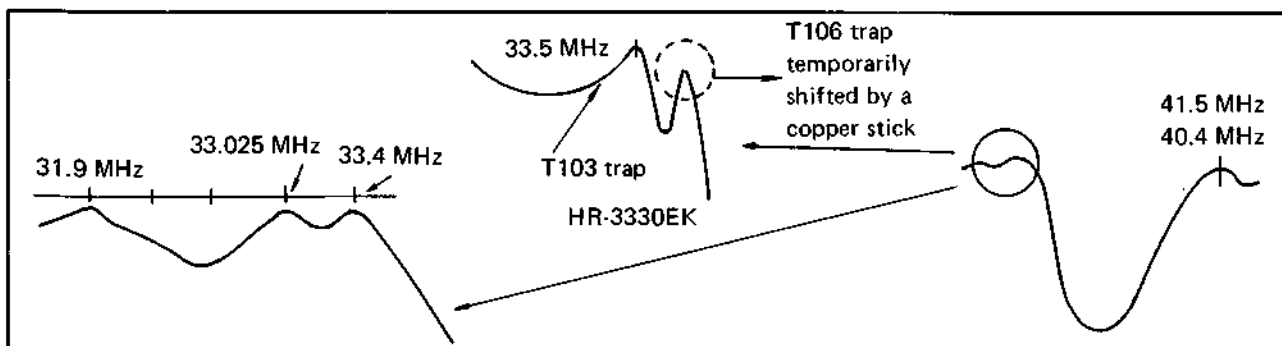

Fig. 6-52
11. Adjust the core of T103 to tune the sound trap to the 33.5 MHz (HR-3330EK), 33.025 MHz (HR-3330EG) marker. At this time, insert a thin copper stick into T106 to shift the dip caused by T106. So, T103 adjustment could be more precisely performed as shown in Fig. 6-52.